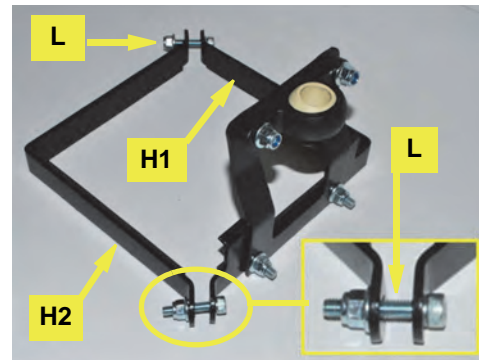

Figure 3c: Connected front and rear clamp brackets
c. Place self-adhesive protective foam tape **K** (not shown) on the inside of the console clamp brackets **H1** and **H2**. Using hardware **L**, loosely and evenly connect the front and rear brackets (Figure 3c and inset).